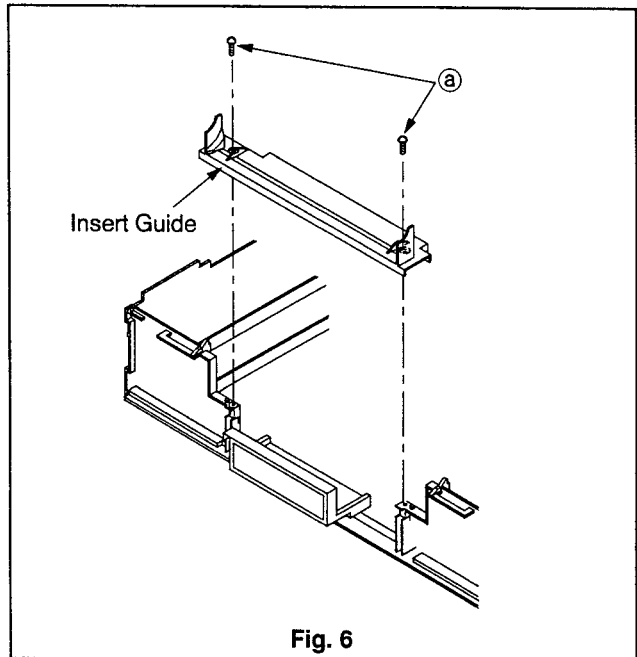

Fig. 6
2. Remove the two screws (ⓐ) shown in Fig. 6.